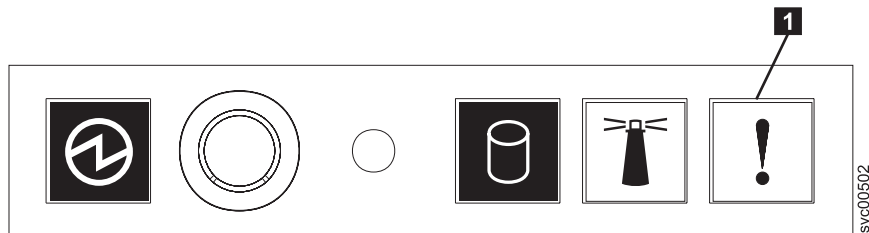

Figure 95. SAN Volume Controller 2145-8A4 operator-information panel
1. Is the Error LED, shown in Figure 95, on the SAN Volume Controller 2145-8A4 operator-information panel on or flashing?